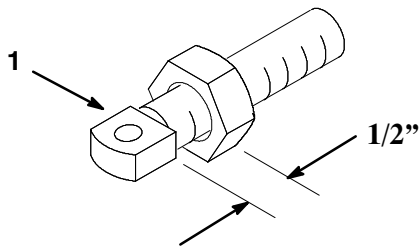

Figure 6
18. Thread a jam nut onto adjusting pin until the outer edge, of nut, is 1/2" from head of adjusting pin (Fig. 6).